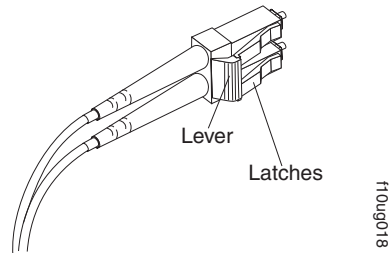

Figure 45. LC-LC fibre-channel cable lever and latches
1. On the end of the cable that connects into the LC connector end of the LC-SC cable adapter, press down and hold the lever to release the latches. Figure 45 shows the location of the lever and latches.